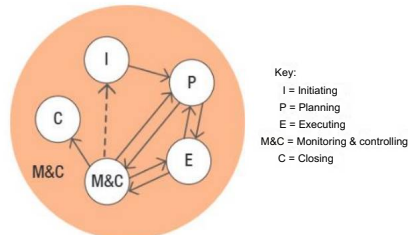
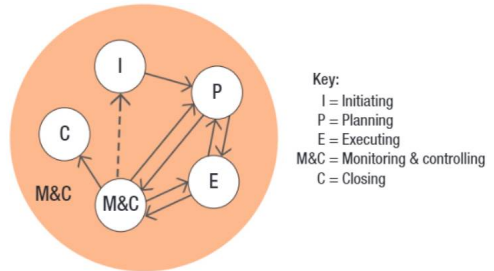
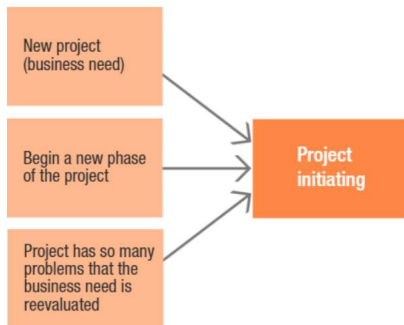

FIGURE 2.1 Project management process
FIGURE 2.5 Project management process
FIGURE 2.6 Reasons for entering project initiating
Figure 2.1 shows generally how the five process groups interact on a project. You have the overall initiating effort, followed by planning. Notice the double-arrows between planning, executing (where we are building the product), and monitoring and controlling (where we are observing and assessing activities to keep things on track). These double arrows are meant to indicate the dynamic, non-linear nature of much of project management work. For example, something that happens in executing and monitoring and controlling, like a change in product scope, may send you back to planning in order to replan to accommodate that change. Many changes like this occur on projects after initial planning is “complete.”
Now notice two more important things about figure 2.1. First, there's a dotted line representing the directional arrow going from monitoring and controlling, back to initiating. This broken arrow is there to remind you that returning to initiating is not a given. In fact, once you leave initiating, it is only under limited circumstances that you would return to initiating. See figure 2.6, where we show those limited circumstances to you.
The second important thing to note right now is that there are two components in figure 2.1 representing “M&C,” or monitoring and controlling. The M&C inside the smaller circle represents monitoring and controlling as a process you carry out along with the others, roughly following the start of executing. The larger, shaded circle also labeled M&C signifies that you are monitoring and controlling throughout the project. No matter what other activities you are carrying out, from whatever process groups, you should also be monitoring and controlling the situation.
The illustration that appeared in figure 2.1 is shown again here in figure 2.5 for your reference as you read the rest of this section and continue to understand the project management process through the process groups.
Start Here: Take time to fully understand figure 2.5 before continuing.
- Arrows move clockwise from Initiating (I). The process moves mostly in order from Initiating (I) through Planning (P), Executing (E), Monitoring & Controlling (M&C), and Closing (C).
- Double arrows between Planning (P), Executing (E), and Monitoring and Controlling (M&C) process groups show that you often move back and forth between them as you tailor to events taking place. New information becoming available in executing (E) may return you to planning (P).
- The single dotted arrow returning from monitoring and controlling (M&C) to initiating (I) indicates that only under limited circumstances you may enter initiating once you leave it (see figure 2.6).